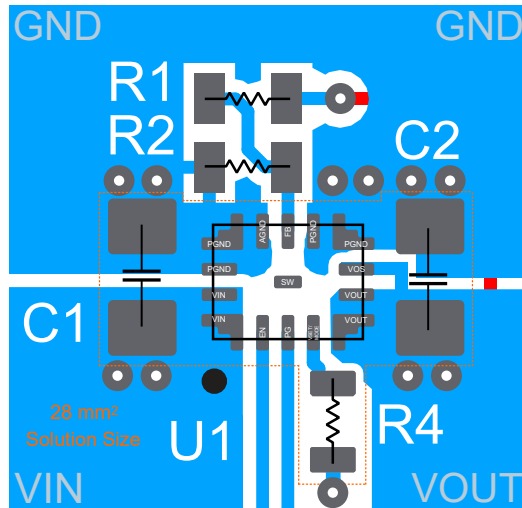
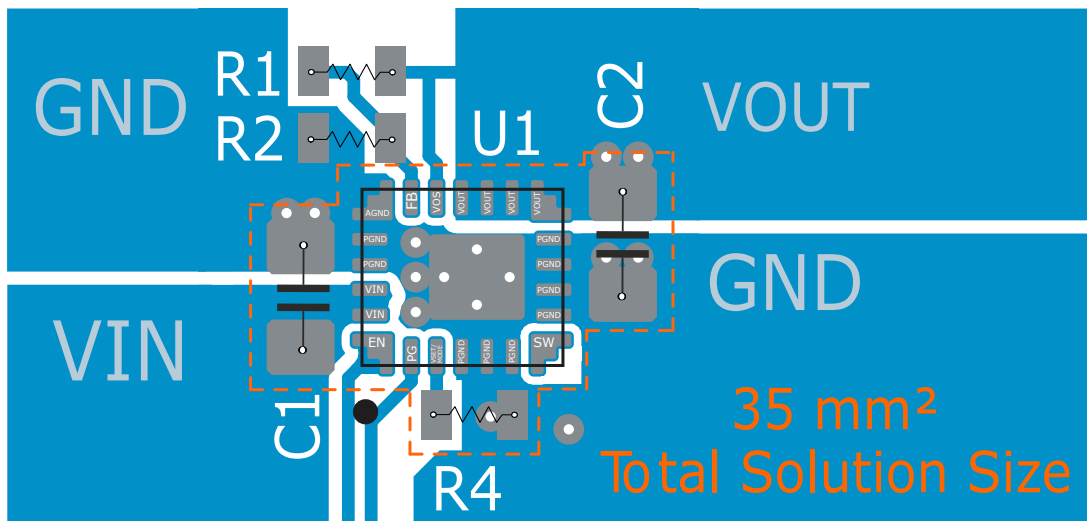

图 8-44. Layout Example RCF package
图 8-45. Layout Example RDJ and RDM package
- Refer to 图 8-44 and 图 8-45 for an example of component placement, routing, and thermal design.